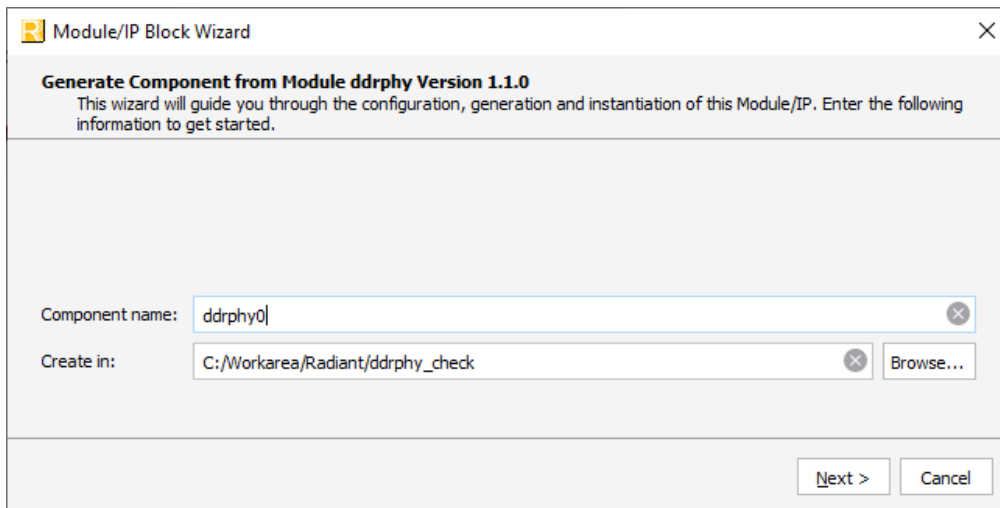
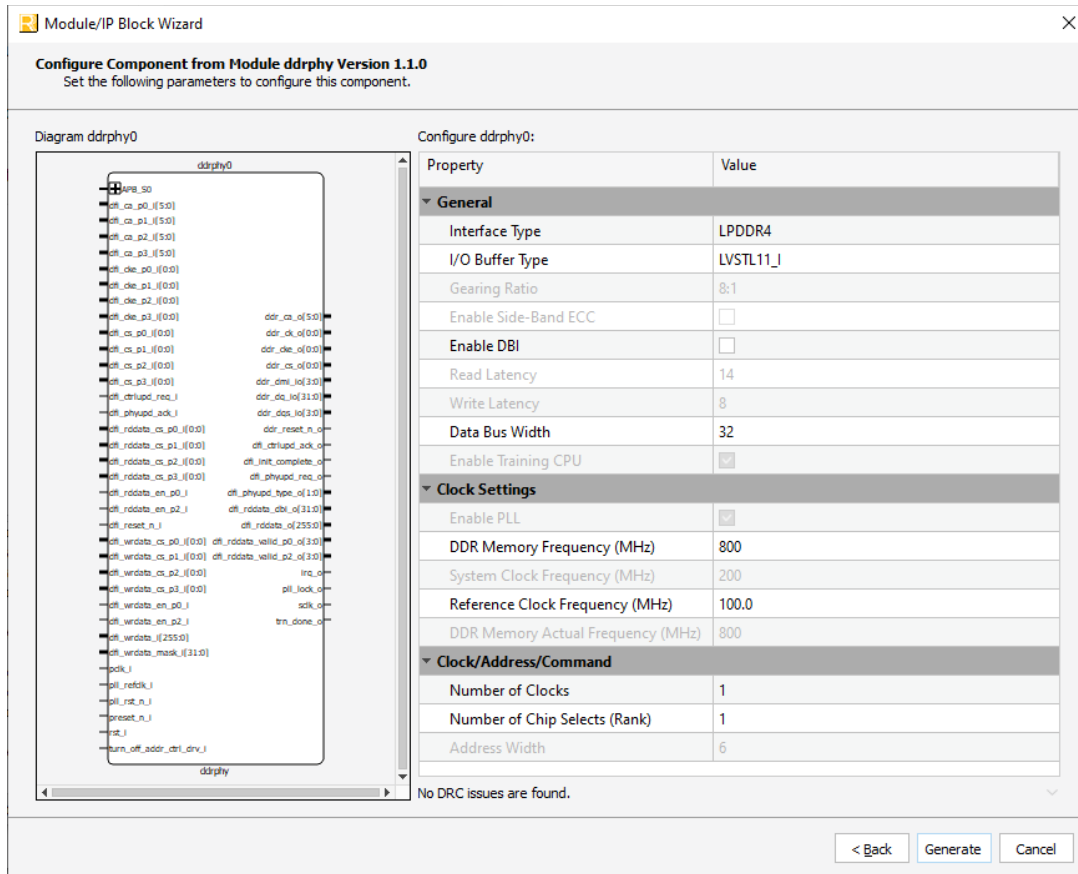
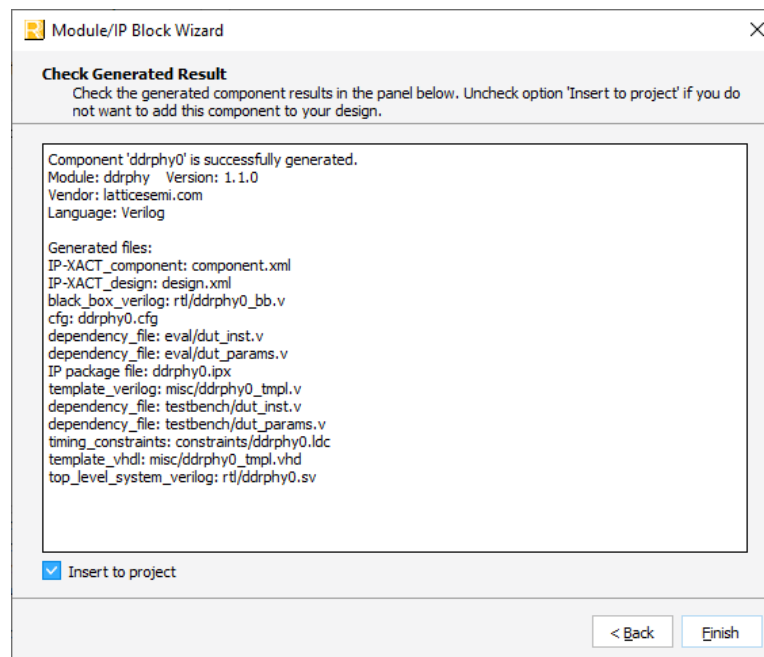

Figure 3.1. Module/IP Block Wizard
Figure 3.2. Configure Block of DDR Memory Module
Figure 3.3. Check Generating Result
2. In the **IP Catalog** tab, double-click on **DDRPHY** under **Module, Architecture\_Modules, I/O** category. The **Module/IP Block Wizard** opens as shown in Figure 3.1. Enter values in the **Component name** and the **Create in** fields and click **Next**.
3. In the dialog box of the **Module/IP Block Wizard** window, configure DDRPHY module according to custom specifications using drop-down menus and check boxes. As a sample configuration, see Figure 3.2. For configuration options, see Table 2.2.
- Click **Generate**. The **Check Generating Result** dialog box opens, showing design block messages and results as shown in Figure 3.3.
- Click **Finish** to generate the Verilog file. All the generated files are placed under the directory paths in the **Create in** and the **Component name** fields shown in Figure 3.1.
IP Generation, Simulation, and Validation	<ul style="list-style-type: none"> <li>Updated section name.</li> <li>Updated <a href="#">Figure 3.1</a>, <a href="#">Figure 3.2</a>, and <a href="#">Figure 3.3</a> in Generating the IP section.</li> <li>Updated <a href="#">Running Functional Simulation</a> section.</li> <li>Added <a href="#">Constraining the IP</a> section.</li> </ul>